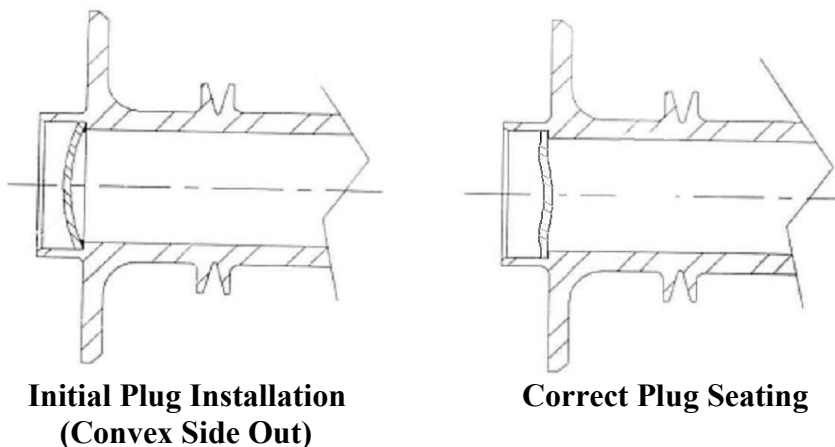

Figure 43
(3) Install the new expansion plug with the convex side out (Figure 43).
(4) Install the plug where it is seated firmly in the bottom of the crankshaft bore.
(5) Remove excess gasket material with a clean cloth soaked with acetone.